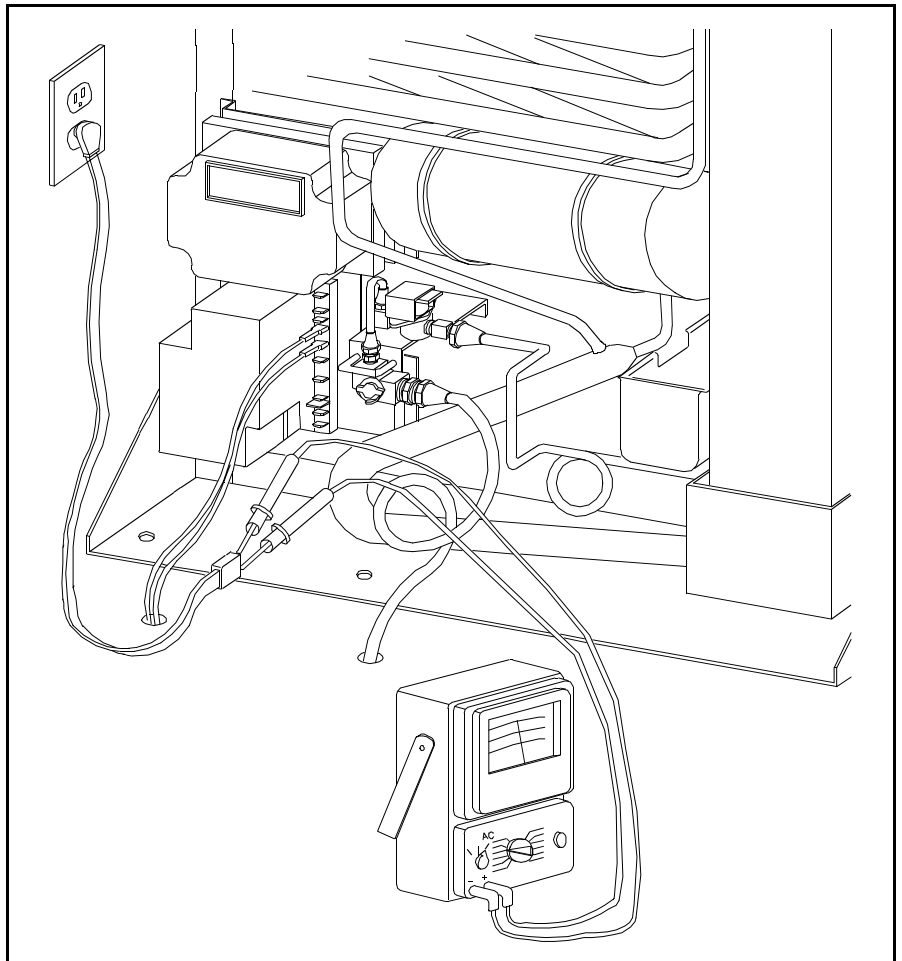

Figure 5.41 120 Volt AC Check At Power Cord
2. Check for 120 volts AC across the power cord as shown in Figure 5.41. If you do not have 120 volts the power cord must be replaced.